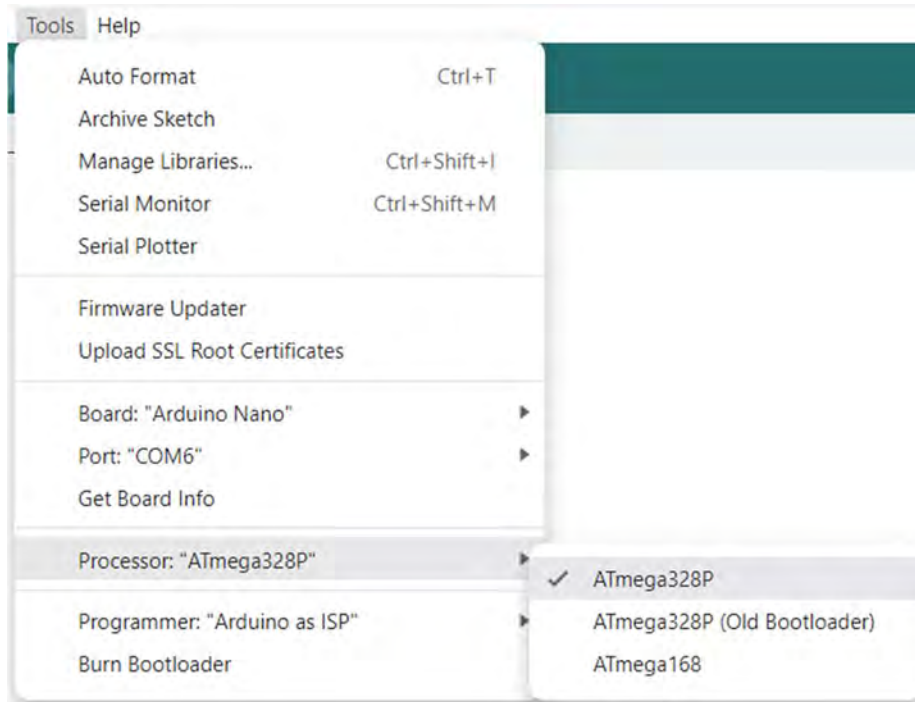

Figure 16: Processor selection for the Nano Flip.
- **Processor selection:** Under “Tools” and “Processor:” select “ATmega328P”, as shown in Figure 16. **NOTE:** Do not select the “Old Bootloader” option.